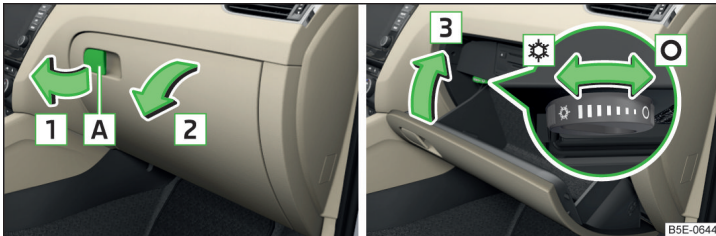

Fig. 109 Open storage compartment / close storage compartment and open air supply
- ▶ To **open**, pull the handle **A** in the direction of arrow **1** and fold the cover in the direction of arrow **2** » Fig. 109.
- ▶ To **open**, turn the rotary switch until it stops in the position  » Fig. 109.